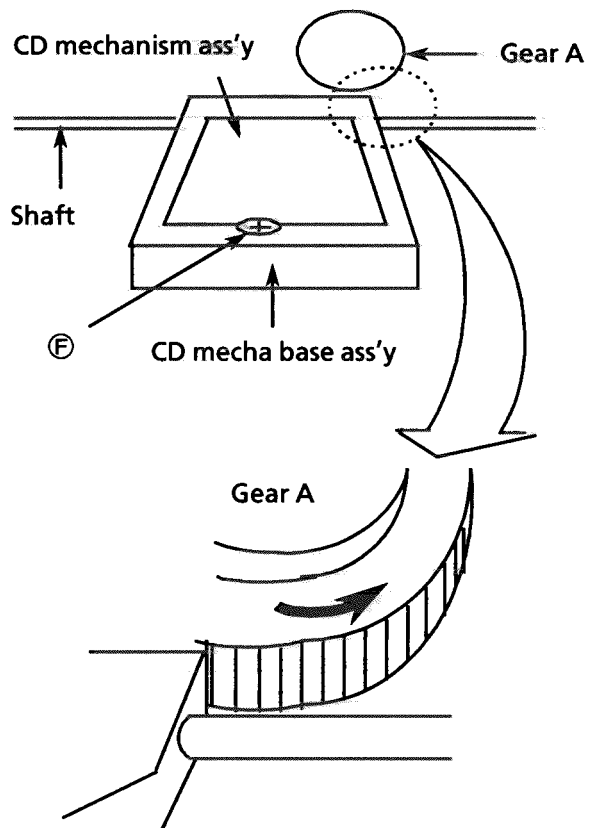

Fig 6 CD mecha base ass'y view
3. Rotate the Gear A shown in Fig.6 and move the CD mechanism ass'y to right side.
4. Remove the screw ③.